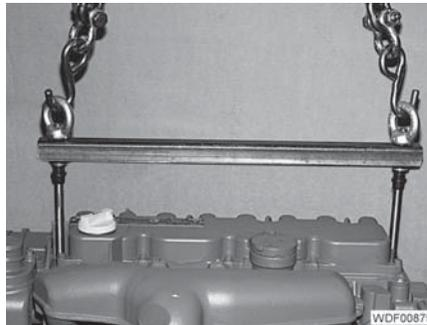

Fig. 21 Engine attachment
- Attach suitable lifting gear to the engine (e.g. workshop crane and traverse) (Fig. 21).